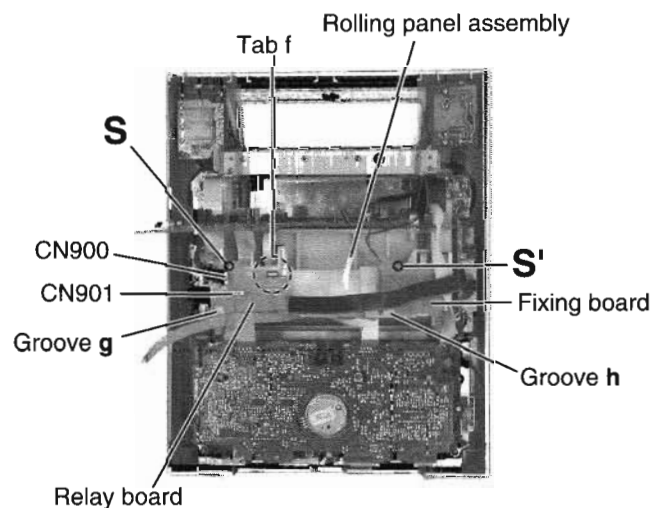

Fig.20
■ **Removing the relay board and fixing board (See Fig.20)**